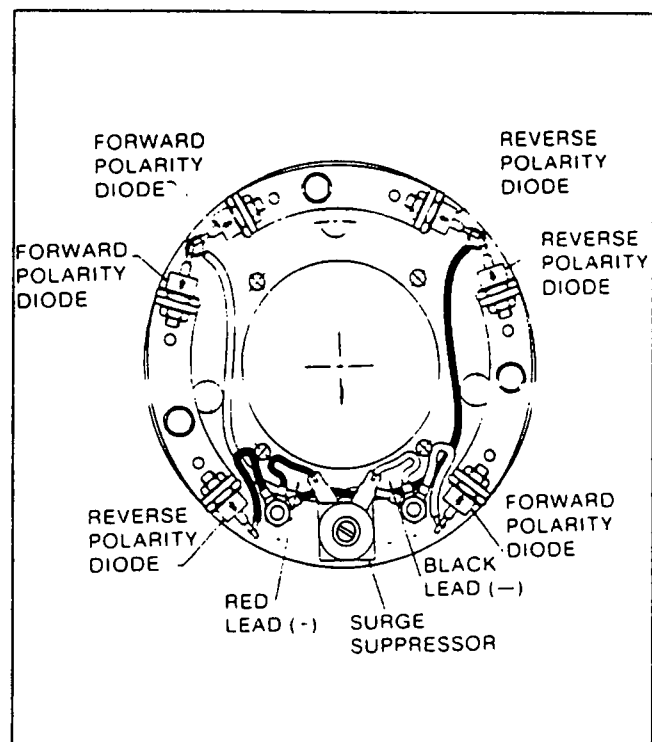

Figure 5. Rotating Rectifier Assembly
Diodes perform the functions of an electrical check valve. That is, they conduct current in one direction only. It is said that diodes "rectify" current. That is, they change alternating current (AC) to direct current (DC). The diode plate (Figure 5) mounts three forward polarity diodes, three reverse polarity diodes, and a surge suppressor.